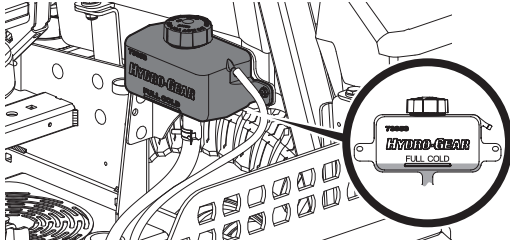

Figure 38
2. Turn the reservoir cap counter-clockwise to remove, then check the oil level in the reservoir. Oil should be visible at the bottom of the cup, but the oil level must NOT be above the "FULL COLD" line (Figure 38). DO NOT FILL THE RESERVOIR.